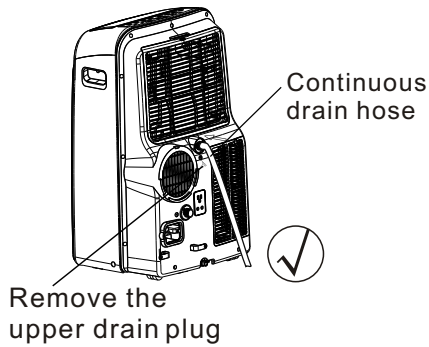
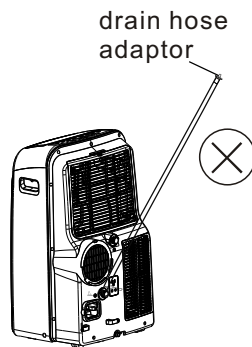

Fig.20a
Fig.21b
- During dehumidifying modes, remove the upper drain plug from the back of the unit, install the drain connector(5/8" universal female mender) with 3/4" hose(locally purchased). For the models without drain connector, just attach the drain hose to the hole. Place the open end of the hose directly over the drain area in your basement floor. Please refer to Fig.20a.
NOTE: Make sure the hose is secure so there are no leaks. Direct the hose toward the drain, making sure that there are no kinks that will stop the water flowing. Place the end of the hose into the drain and make sure the end of the hose is down to let the water flow smoothly.(See Fig.20a,20b,21a). Do never let it up.(See Fig.21b).